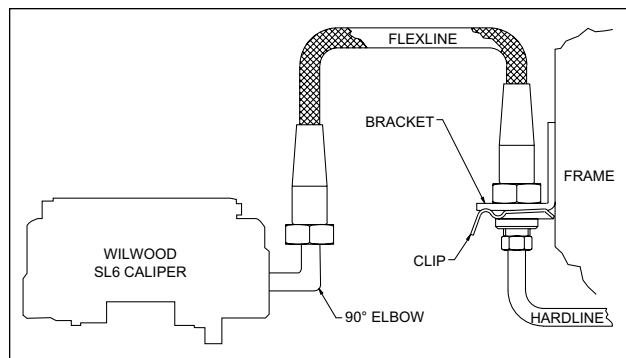

Figure 4. Brake Line Diagram
- Install Wilwood's optional stainless steel braided flexline hose kit, part number 220-8338 (**NOT included in kit**), see Figure 4. **NOTE:** OEM rubber brake hoses generally cannot be adapted to Wilwood calipers. The caliper inlet fitting is a 1/8-27 NPT. The preferred method is to use steel adapter fittings at the caliper, either straight, 45 or 90 degree (use PTFE tape on pipe threads of adapter fitting for proper sealing to caliper) and enough steel braided line to allow for full suspension travel and turning radius, lock to lock. **Carefully route lines to prevent contact with moving suspension, brake or wheel components.** Wilwood hose kits are designed for use in many different vehicle applications and it is the installer's responsibility to properly route and ensure adequate clearance and retention for brake hose components.